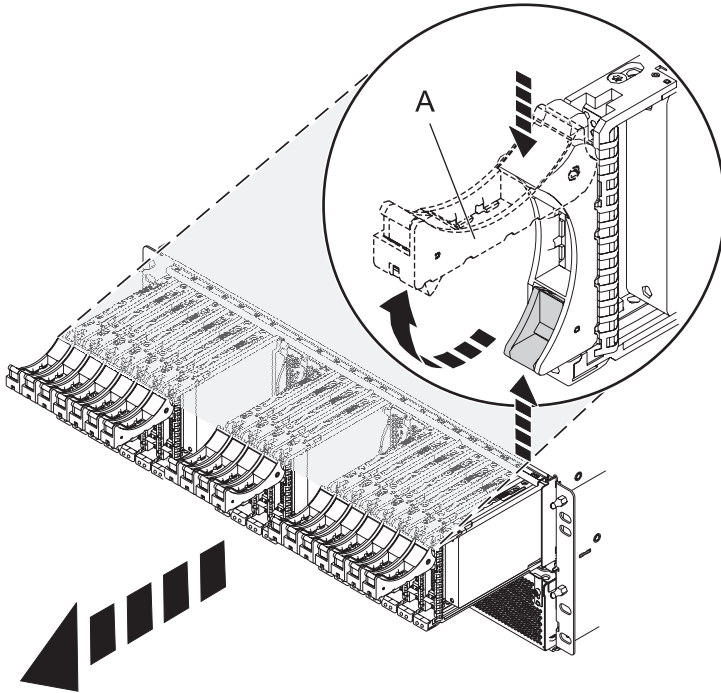

Figure 74. Removing the drives from the backplane
4. Remove the drives and fillers as shown in Figure 74.
- a. Squeeze the latch of the drive and pull the handle (A) toward you to release the drive.